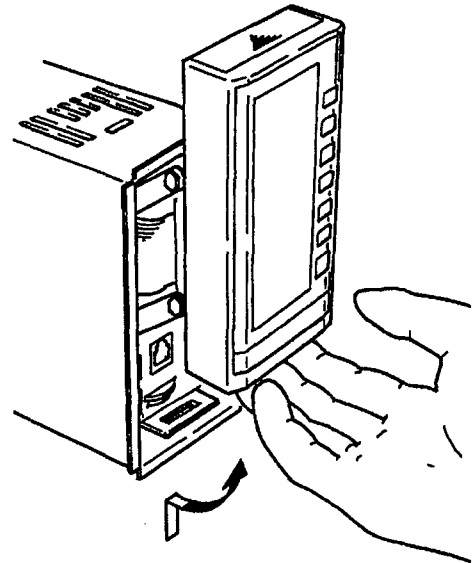

Figure 4.3 Swinging Up 2
- ② Push up the front panel (see Figure 4.3).